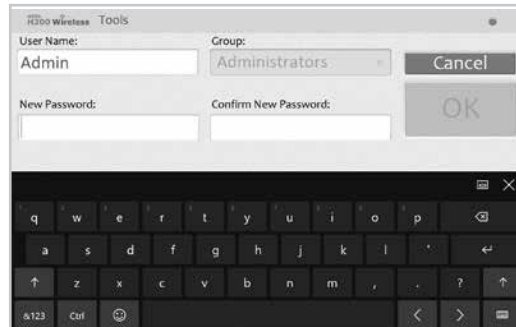

Figure 8-43: Change User's Password Window
2. Press Change PWD. The Change User's Password window will open. See Figure 8-43.